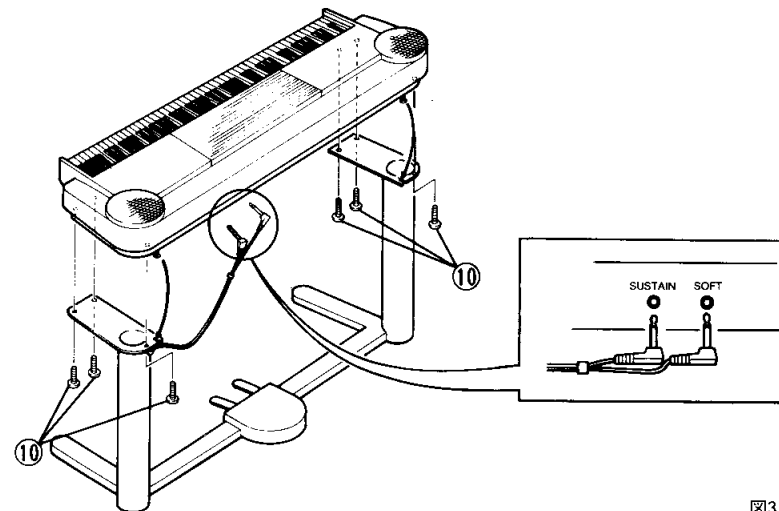

図3/Figure 3
ベースAss'yが下にくるように設置し、図3に示すようにPF1200/1500の下にあるガイドスクリューをスタンドの穴までスライドさせ、M6×16 ⑩の固定ネジで締め付けます。
Turn the assembled stand right side up so that the base assembly is on the bottom. As shown in Figure 3, slide the guide screws on the bottom of the PF1500 all the way into the slots in the stand. Tighten the M6×16 screws ⑩. Insert the pedal plugs into the back of the PF1500; the plug with the longer lead going to the SOFT terminal and the plug with the shorter lead going to the SUSTAIN terminal.